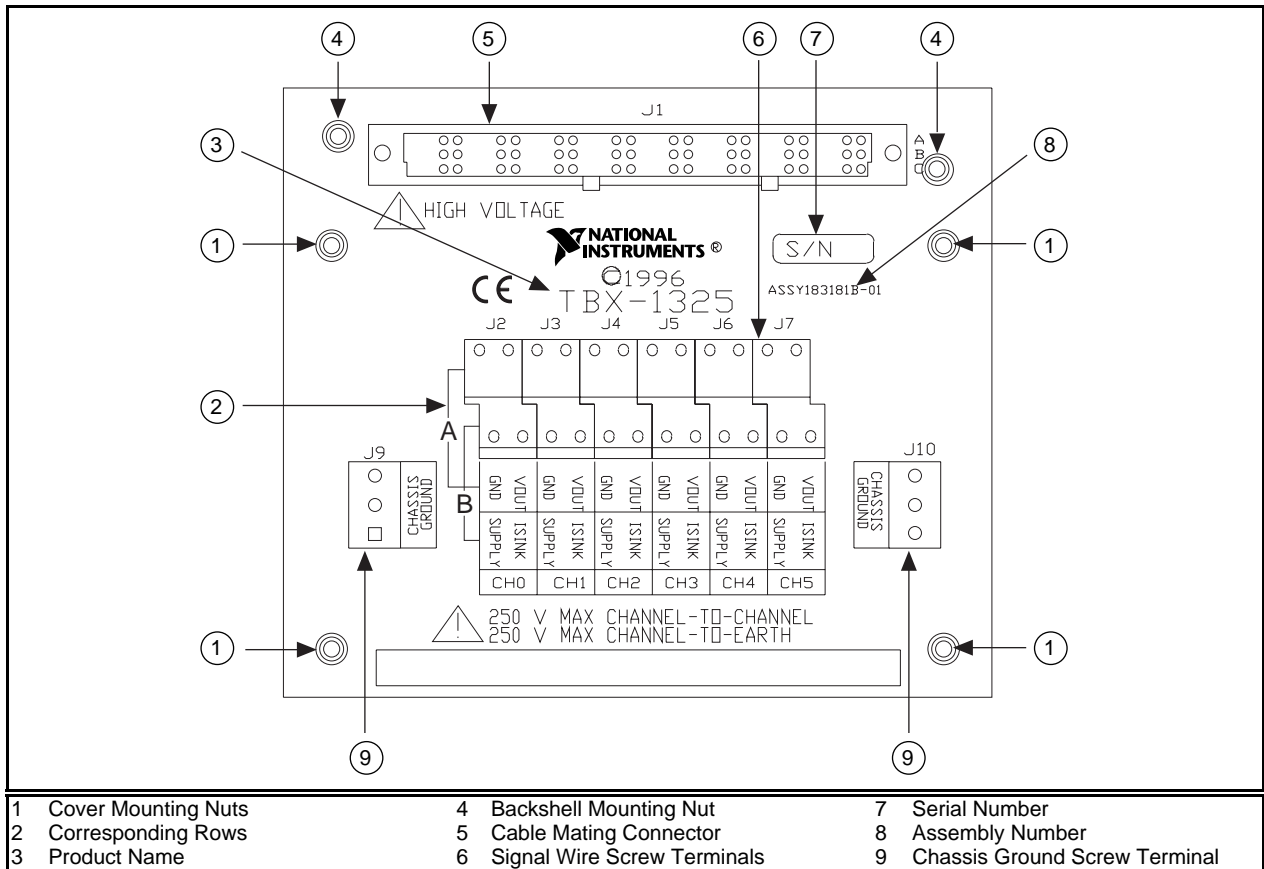

Figure 6. TBX-1325 Parts Locator Diagram
Note: *The board has corresponding rows labeled A and B to help you make the correct connections, as shown in Figure 6, item 2.*
The installation and signal connection are now complete. Figure 6 shows the TBX-1325 parts locator diagram.